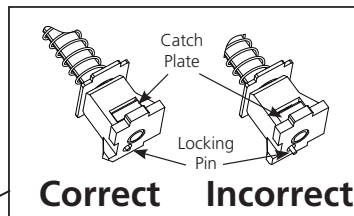

Figure 4
**Note: Make sure catch plate is even with top surface and locking pin is not projected (Figure 4). If not, depress catch plate with screwdriver and repeat step 4.**